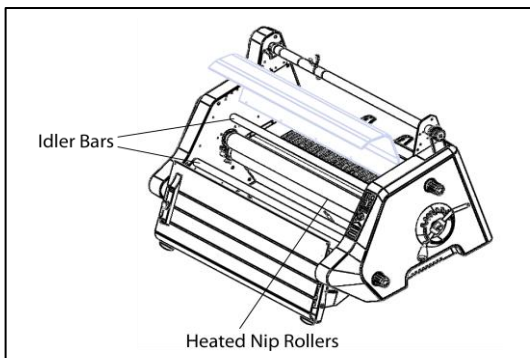

Figure 6
7. **HEATED NIP ROLLERS:** (figure 6) Heats the film to activate the adhesive and provides pressure to ensure film adheres to the media.
8. **IDLER BARS:** (figure 6) The Idler Bars, located near each supply roll, are used to direct the film to the NIP ROLLERS. The lower Idler Bar is attached to the Feed Table to facilitate easy film loading.